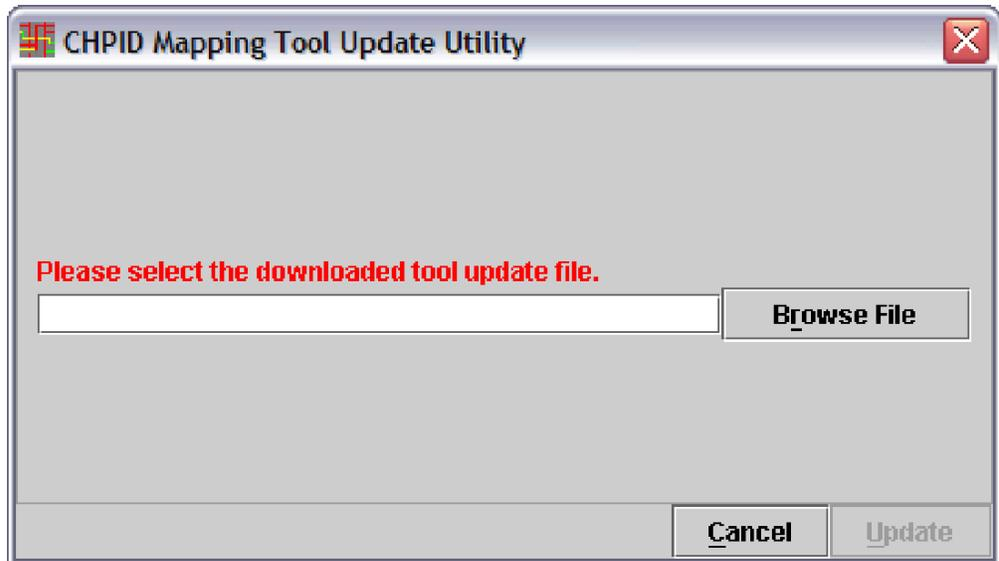

Figure 19. CHPID Mapping Tool Update Utility
3. Click **OK**. This displays a window like that shown in Figure 19: